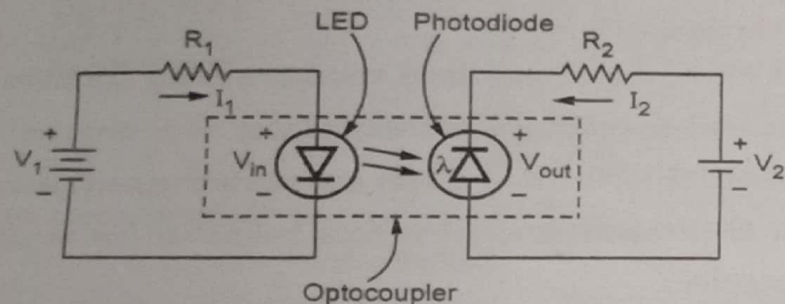

Fig. Q.27.1 LED-photodiode optocoupler
- The Fig. Q.27.1 shows the basic construction of LED-photodiode type of optocoupler.